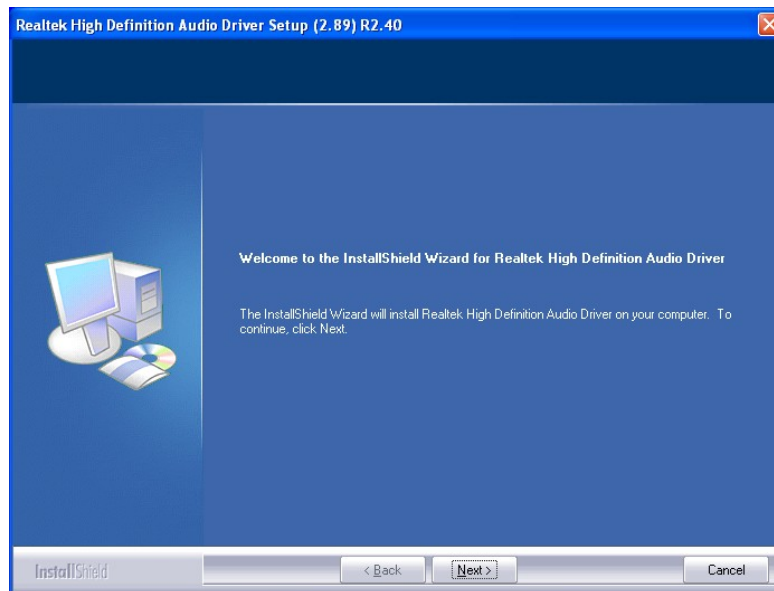

Figure 5-19: Audio Driver Welcome Screen
Step 4: The **Audio Driver Welcome Screen** in **Figure 5-19** appears.